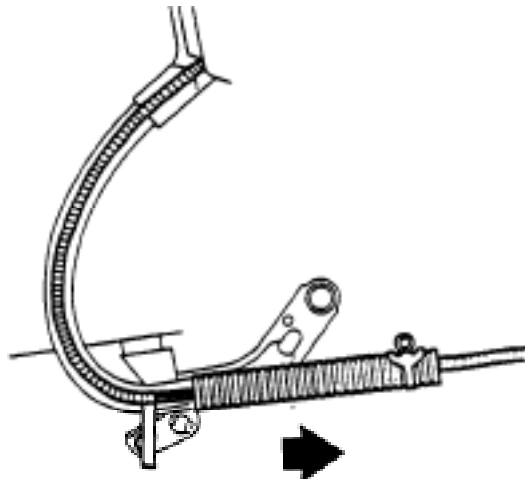

Figure 9. Threading Wire into Corrugated Cable
9. Thread the wire through the corrugated cable duct 45 54 817. The cable tie should face towards the front the car (see Figure 9).